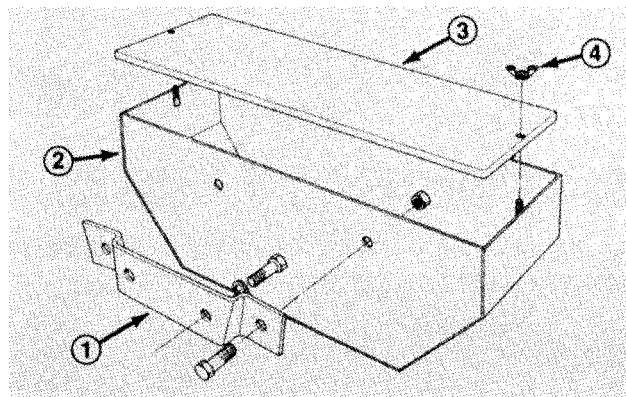

Figure 11
3. Secure mounting bracket to rear frame with two 1/2-13x1-1/4" lg. capscrews and lockwashers (Fig. 11).
4. Secure weight box to mounting bracket with (2) 1/2-13x1-1/4" lg. capscrews (previously inserted into bracket) and locknuts (Fig. 11).
5. Fill weight box with approximately 90-100 lbs. of sand or gravel and install cover. Secure cover with two wing nuts (Fig. 11).